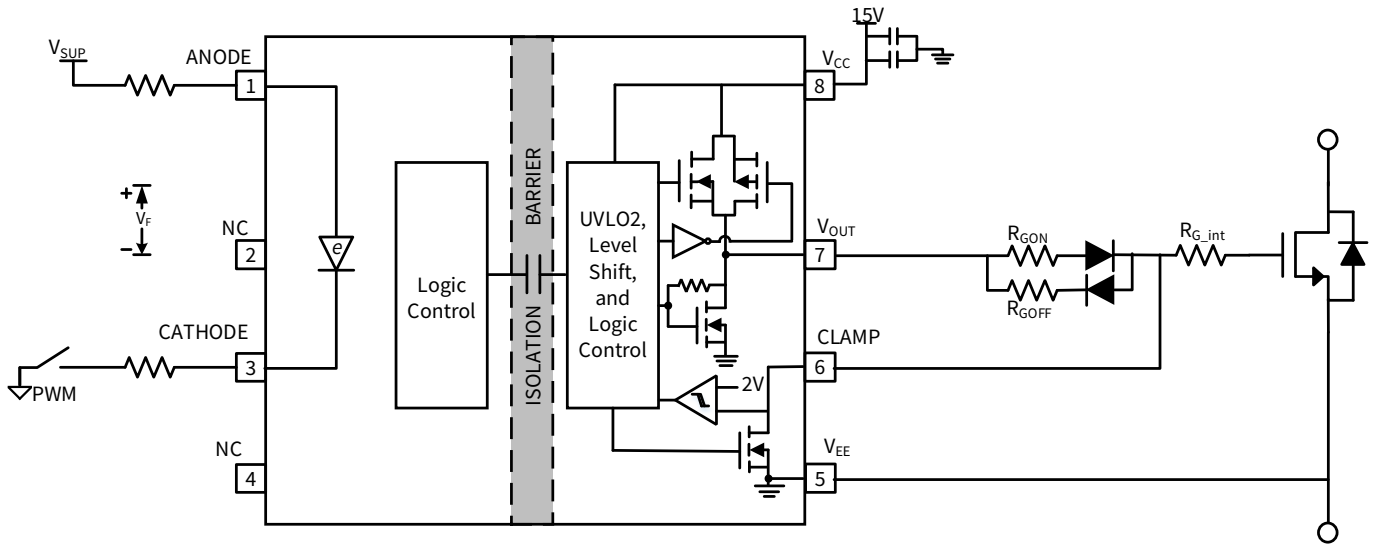
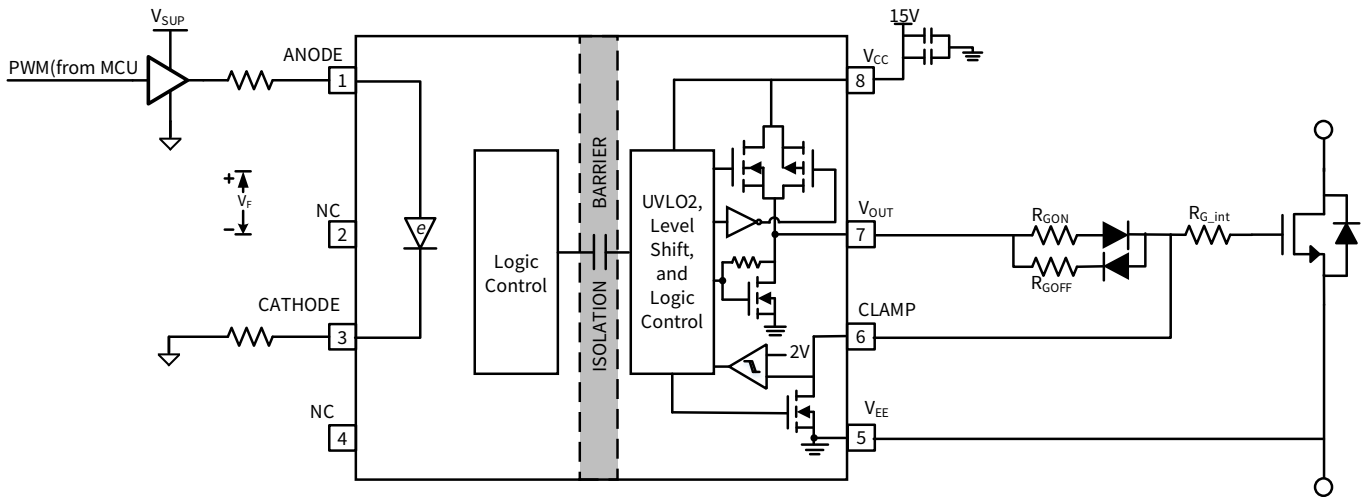
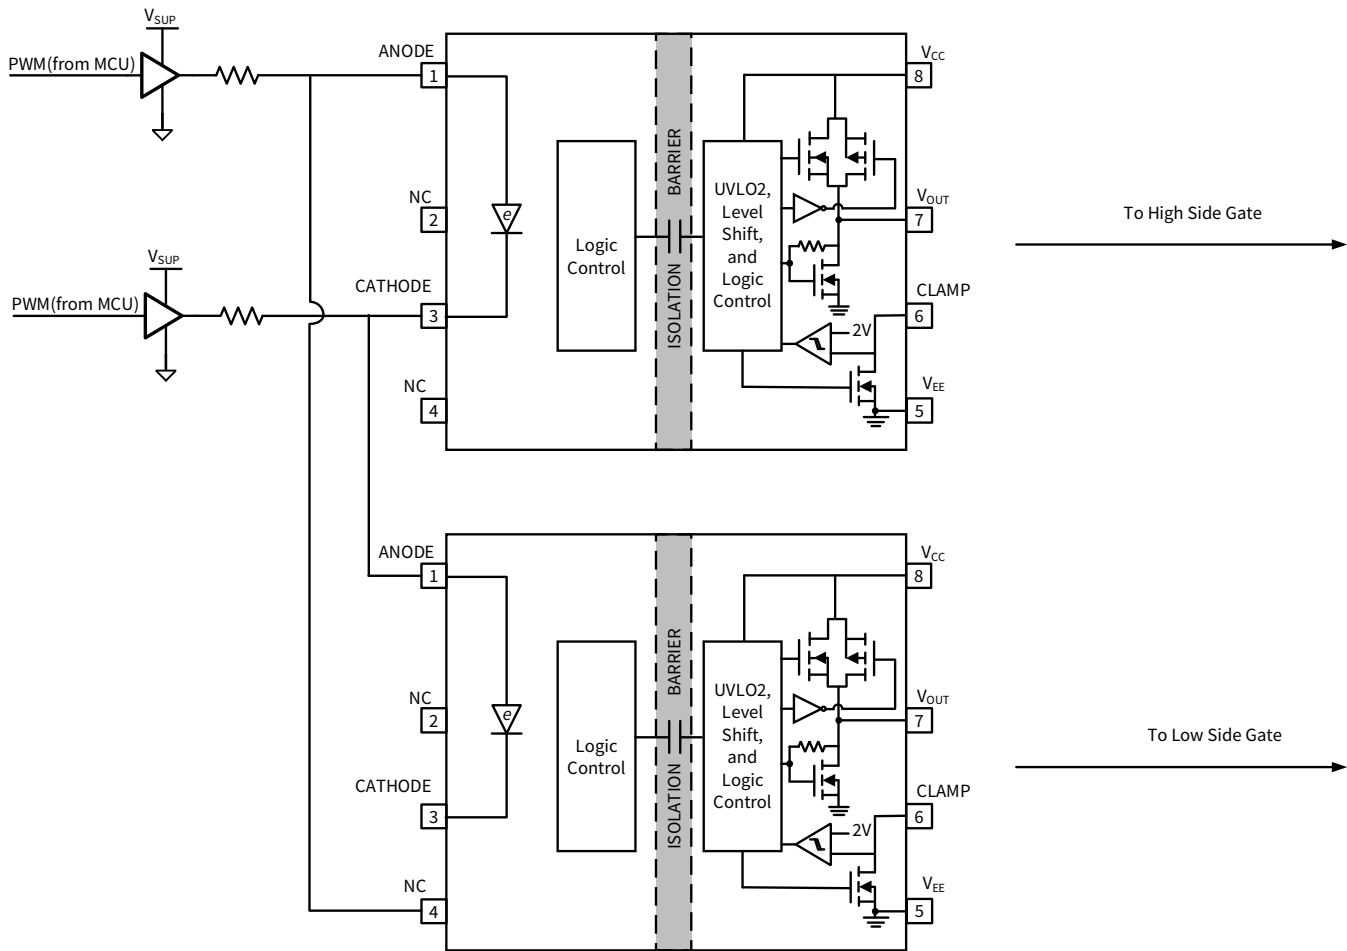

Figure 9.1 NSI6801M typical application circuit with NMOS driving input stage
Figure 9.2 NSI6801M typical application circuit with one buffer driving input stage
Figure 9.3 Interlock Protection using NSI6801M
NSI6801M requires 7mA to 16mA bias current that flows into the e-diode for normal operation. The PWM from MCU is not suitable to provide such current directly and external circuit is needed. In Figure 9.1, one NMOS is used with split input resistors. Another input drive method is using one buffer, as shown in Figure 9.2. The details to calculate input drive parameters are in Chapter 9.3.
For applications to drive power transistors in half bridge configuration, two NSI6801M can be used. Interlock protection is possible as shown in Figure 9.3. If the controller has some mistake, leading to negative dead time, the output PWM of NSI6801M is adjusted to avoid power transistor shoot through. The input side reverse breakdown voltage of NSI6801M is greater than 6.5V, which supports interlock protection of 3.3V or 5V PWM signal source.
The recommended forward current range for NSI6801 is 7mA to 16mA. The value of input resistor, buffer supply voltage and buffer internal resistance influence the forward current, as shown in Equation (1). In Figure 9.1,  $R_{IN1}$  is the on-resistance of the external NMOS. In Figure 9.2,  $R_{IN2}$  is the buffer output impedance in output “High” state. In Figure 9.3,  $R_{IN3}$  is the summary of buffer output impedance in “High” and “Low” state.